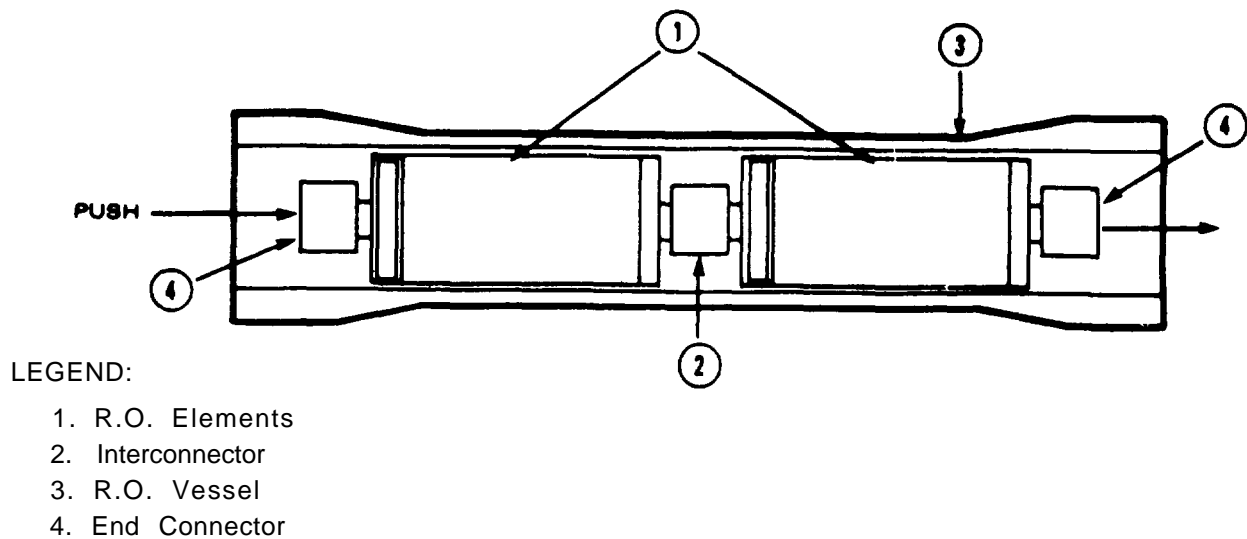

Figure 3-9. Element Replacement
(10) Refer now to fig. 3-9. Slide both R.O. elements (1) and interconnector (2) into R.O. vessel (3) until they are centered in the vessel.
(11) Place end connectors (4) on both ends of product water tubes of R.O. elements. Join them to product water tubes of end caps.
(12) Align end caps with matchmark on R.O. vessel.
(13) Press end caps onto studs.